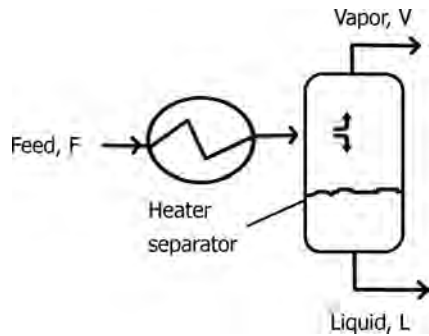

FIGURE 17.13 Equilibrium flash vaporization.
- Figure 17.13 illustrates the EFV process.